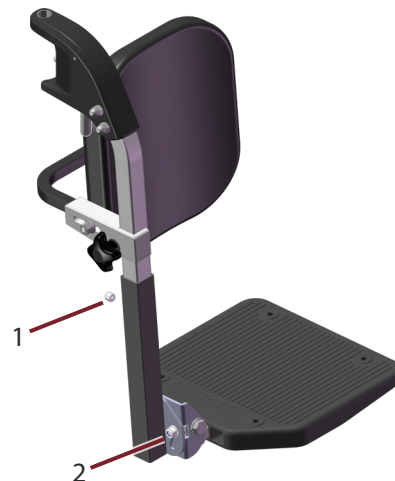

Figure 28. Separate footrest
Push in the snap lock (1 in Figure 28) and move the footrest to the desired position.
- Loosen the bolt (2 in Figure 28).